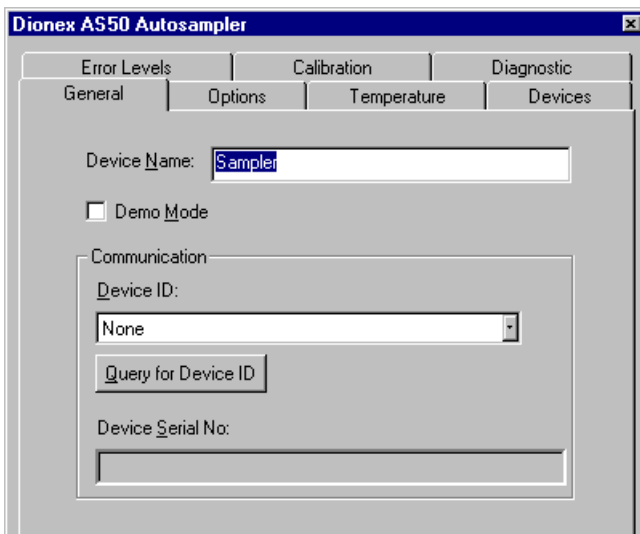

Figure 16. AS50 Configuration Properties
- Click **OK**. A configuration properties dialog box for the device appears. Figure 16 shows an example of the properties for an AS50 Autosampler.